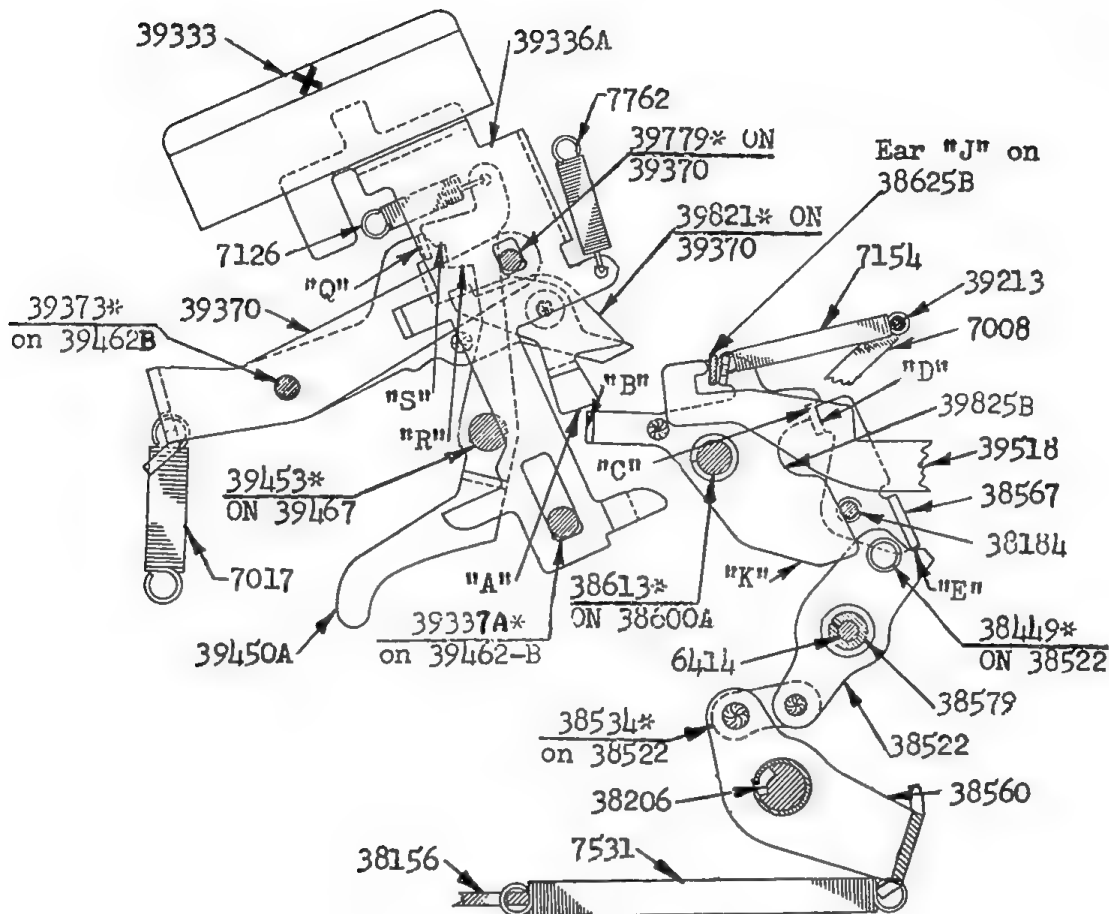
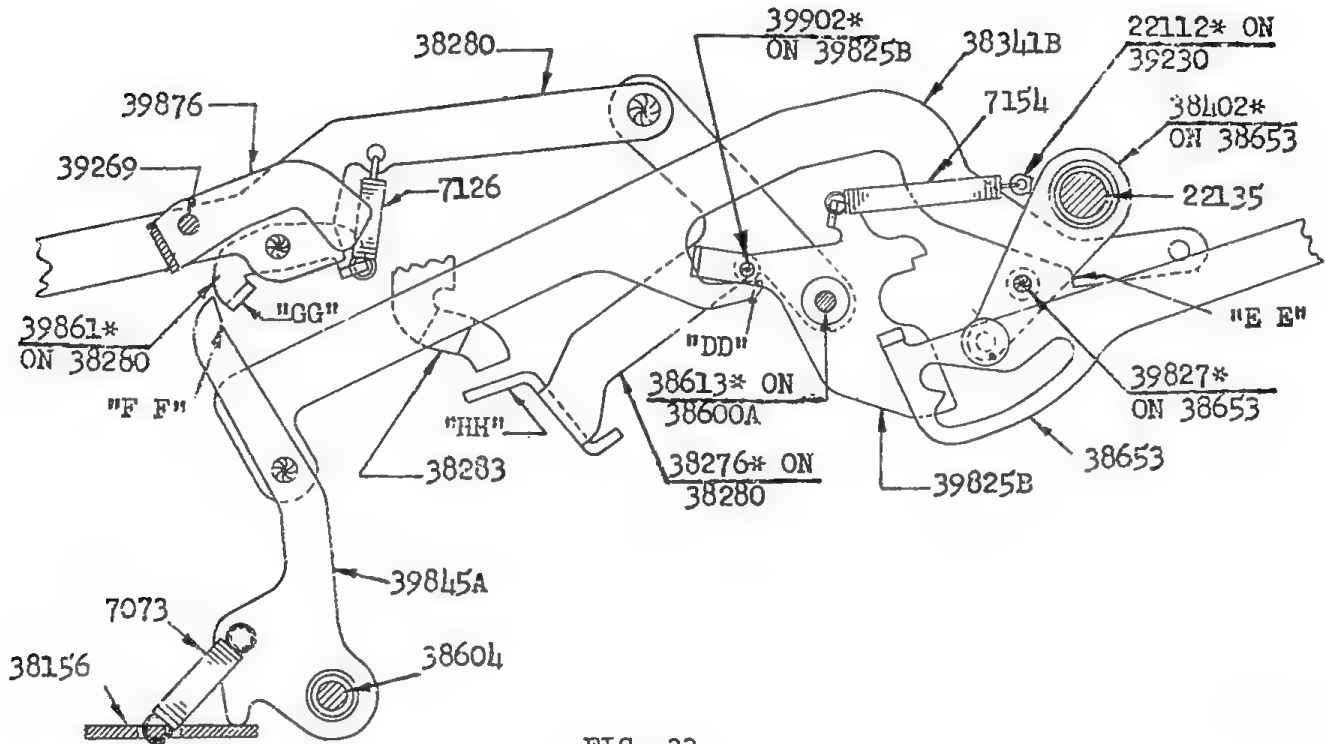

FIG. 25
FIG. 33
1. (FIG. 25). Depression of the Multiplier Key 39336A rocks the Multiplier Key Bail-39370 through a slot in the key stem engaging Stud-39779* on 39370. Surface "A"
3. (Fig. 25 & 27). In addition to rocking 39825B, the surface "A" on the Multiplier Key Bail Live Point-39821* also rocks the Multiplier Starting Lever-38610B through its ear "H" which, in turn, rocks the Equals Starting Lever-38625B counter-clockwise through Stud-38638B* on 38610B. (Figs. 25 & 27). Ear "J" on 38625B pulls the Master Clutch Control Link-39518 forward and opens the
Master Clutch in the same manner as the Dividend Key. (Section I-Para. B-1 on Pages 1208 & 1209). To assure opening the Master Clutch upon release of Bail-38560 in case of a sharp partial depression of the X-Key, a surface "K" is provided on 39825B which is cammed counter-clockwise by Spacer-38449* on 38522 when 38522 is released to rock counter-clockwise. (Fig. 25). Counter-clockwise movement of 39825B brings its ear "L" into contact with ear "J" on 38625B which positively
5. (Fig. 25 & 27). Rotation of Master Clutch rocks Lever-38635A counter-clockwise. Stud-39776A* on 38635A will now contact the surface "N" on the Live Point-39821* and rock 39821* so that its surface "A" comes clear of the Ears "B" and "H", allowing the Bail-39370 to be latched down and limiting Master Clutch to one cycle while the Levers-38610B and 39825B return to their normal posi-
tions. Stud-39776A* also contacts surface "P" on Bail -39370 and rocks it farther clockwise to allow its ear "Q" to be latched by surface "R" on the X Bail Latch-39450A.(FIG. 25). The first Latching surface "S" on 39450A is to prevent a jamming condition in the event that the X Key is depressed sharply in such a manner that after opening of the Master Clutch the Bail-39370 would come back to a position where the Stud-39776A* on 38635A could hit the very tip of the surface "P" on 39370.
11. (Fig. 33). When the Primary Latch-39825B is rocked counter-clockwise by the X-Key, (Fig. 25), its Stud-39902* lowers the Mult. Keyboard Clear Link-38341B through surface "DD" and thus brings the surface "EE" into the path of Stud-39827* on Link-38653. During the final phase of the Master Clutch Cycle the Stud-39827* pulls the Link-38341B rearward